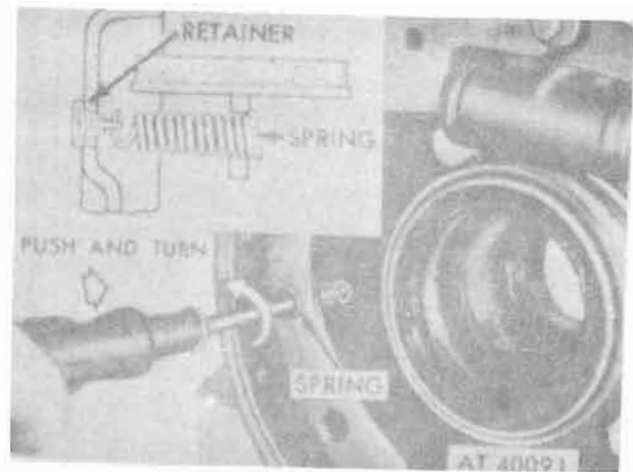

Figure 11-17. Brakeshoe holddown spring.
g. Remove two brakeshoe holddown springs from spring retainer, using slotted screwdriver. Exercise care not to distort the spring (fig. 11-17).